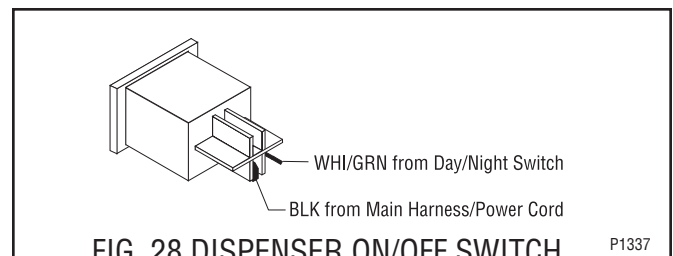

FIG. 28 DISPENSER ON/OFF SWITCH
7. Reconnect the wires to the switch. Refer to Fig. 28 when reconnecting wires.